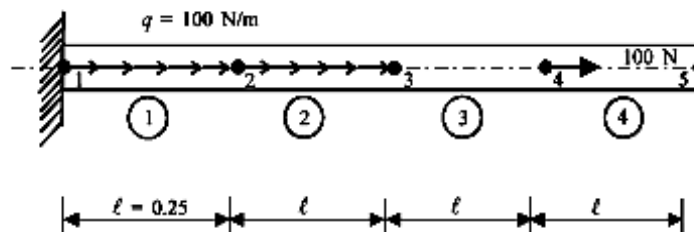

Figure 2
b) Rod under distributed and concentrated forces and subjected to forces as shown in figure 2.